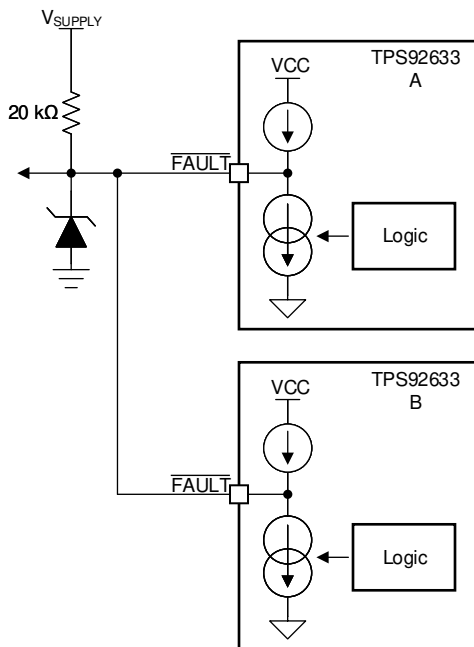
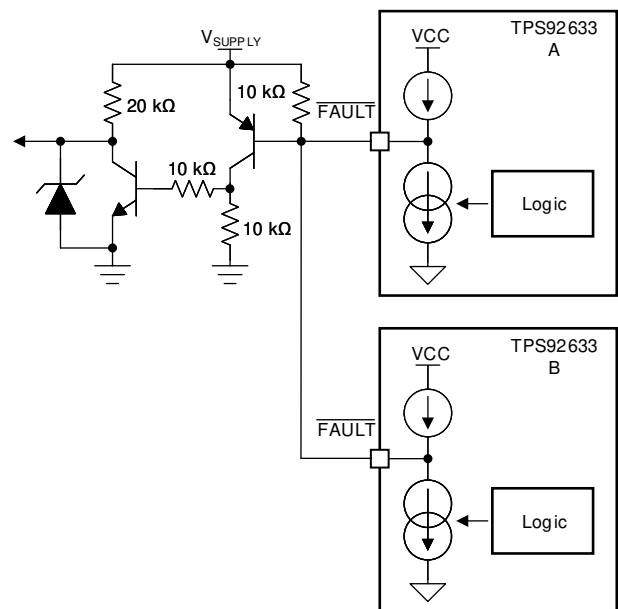

Figure 7-12. FAULT Bus for One-Fails-All-Fail Application
Figure 7-13. FAULT Bus for One-Fails-Others-On Application
Based on this feature, the TPS92633 device is able to construct a FAULT bus by tying  $\overline{FAULT}$  pins from multiple TPS92633 devices to achieve one-fails-all-fail function as Figure 7-12 showing. The lower side TPS92633 (B) detects any kind of LED fault and pulls low the  $\overline{FAULT}$  pin. The low voltage on  $\overline{FAULT}$  pin is detected by upper side TPS92633-Q1 (A) because the  $\overline{FAULT}$  pins are connected of two devices. The upper side TPS92633 (A) turns off all output current for each channel as a result. If the  $\overline{FAULT}$  pins of each TPS92633 are all connected to drive the base of an external PNP transistor as illustrated in Figure 7-13, the one-fails-all-fail function is disabled and only the faulty channel is turned off.